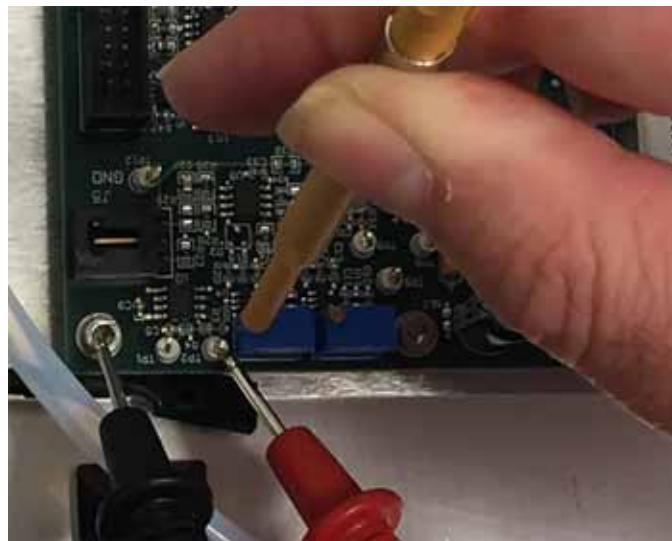

Figure 5.4-5. Pump PCB Potentiometer Adjustment
15. Refer to the data collected in step 5. Reset the UVP & OVP voltages using a potentiometer trim-tool. Adjust VR1 for UVP (measure the voltage on TP2), adjust VR2 (check TP5). See Figure 5.4-5.